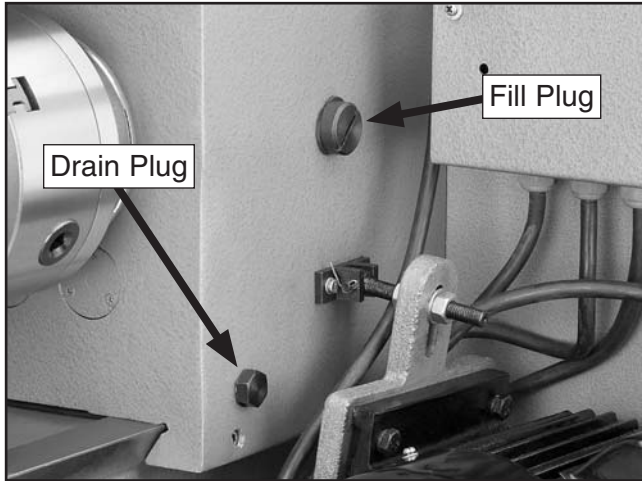

Figure 92. Gearbox fill and drain plugs, as seen from the rear of the lathe head.
2. Wipe clean the area around the fill plug to prevent debris from falling into the reservoir when adding oil (see **Figure 92**).
2. Remove the reservoir fill plug (see **Figure 92** on **Page 56**).
3. Hold the drain pan under the reservoir drain plug, then remove the drain plug shown in **Figure 92**, and allow the oil to completely drain into the pan.